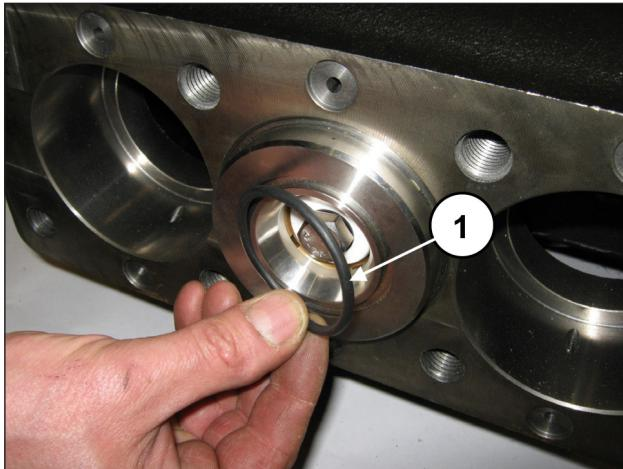
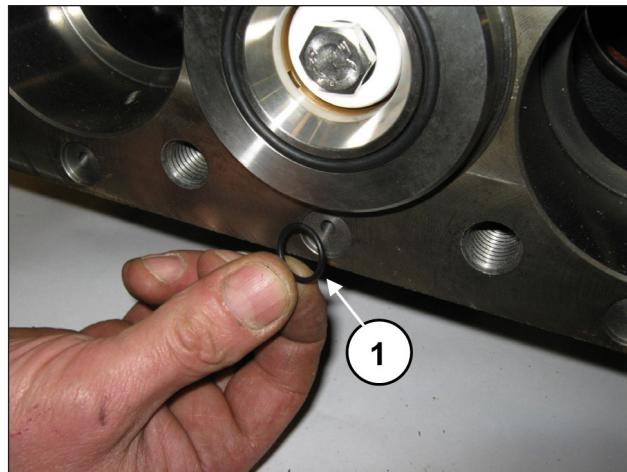

Fig. 189
Fig. 190
Install the front O-ring in the liner (pos. ①, Fig. 189) and the recirculation hole O-ring (pos. ①, Fig. 190).